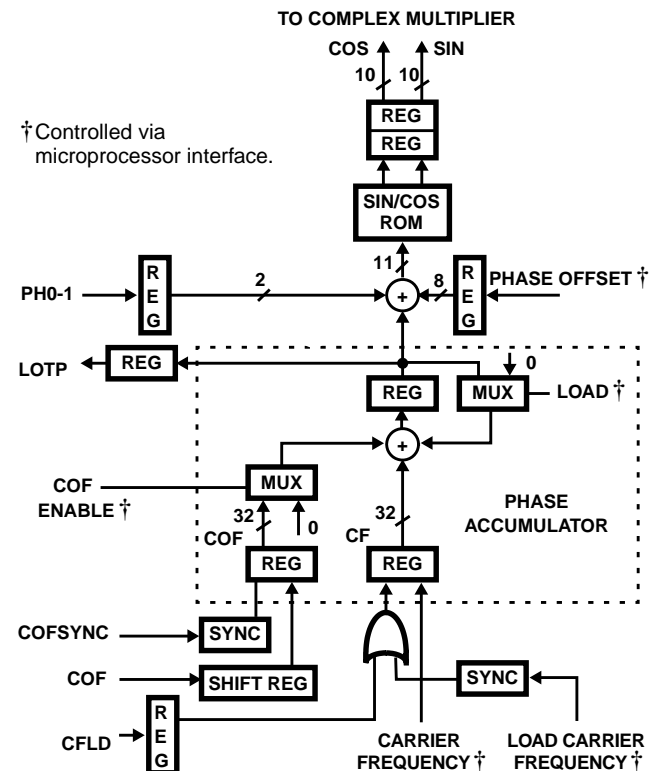

FIGURE 2. SYNTHESIZER NCO
The quadrature outputs of the NCO are generated by driving a sine/cosine lookup table with the output of a phase accumulator as shown in Figure 2. Each time the phase accumulator is clocked, its sum is incremented by the sum of
The phase of the NCO's quadrature outputs can be adjusted by adding an offset value to the output of the phase accumulator as shown in Figure 2. The offset value can be loaded into the Phase Offset (PO) Register or input via the PH0-1 inputs. If the PO Register is used, the phase can be adjusted from $-\pi$ to π with a resolution of $\sim 1.4^\circ$. The phase offset is given by the following equation,